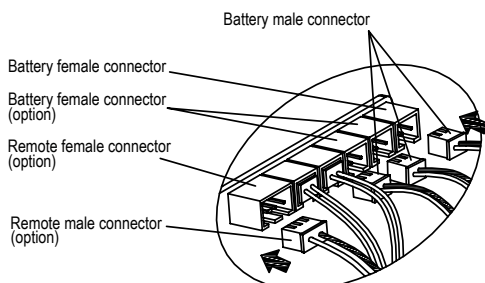

Figure 5
10. Adjust the lamp head and lens direction as needed. (Figure 5)
#### CONNECTING REMOTE HEADS (OPTIONAL) (FIGURE 5)